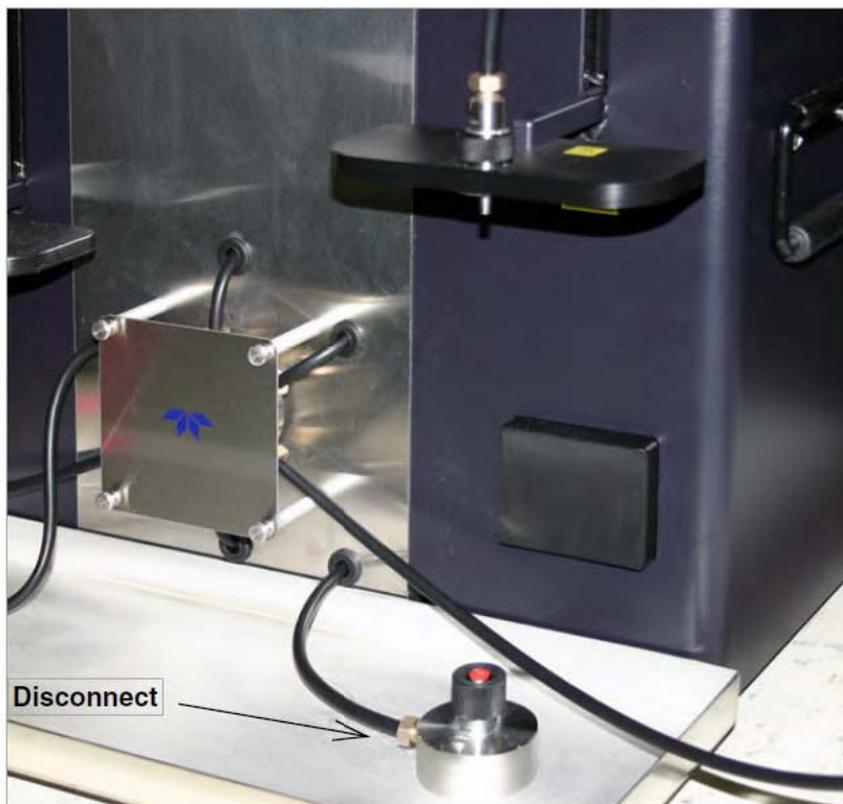

Figure 2-10 Torrent: Disconnect tubing from bottom column connection
4. On the Torrent, disconnect the black PTFE tubing end from the bottom column connection (Figure 2-10).